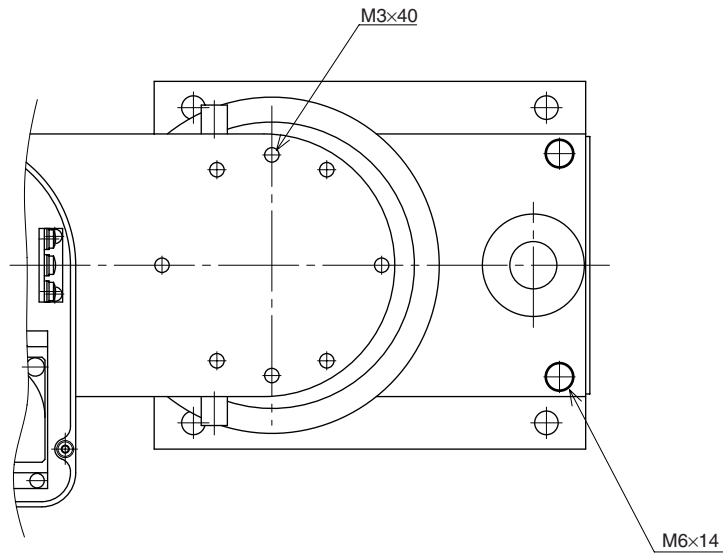
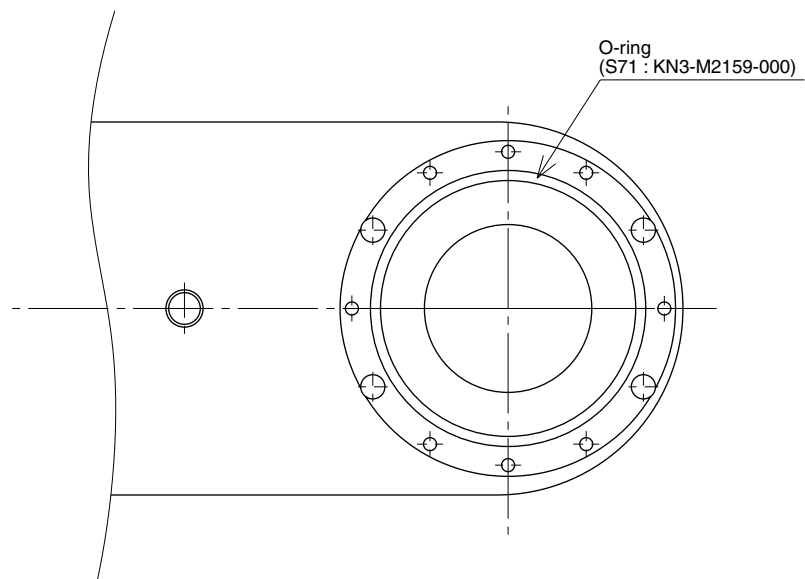
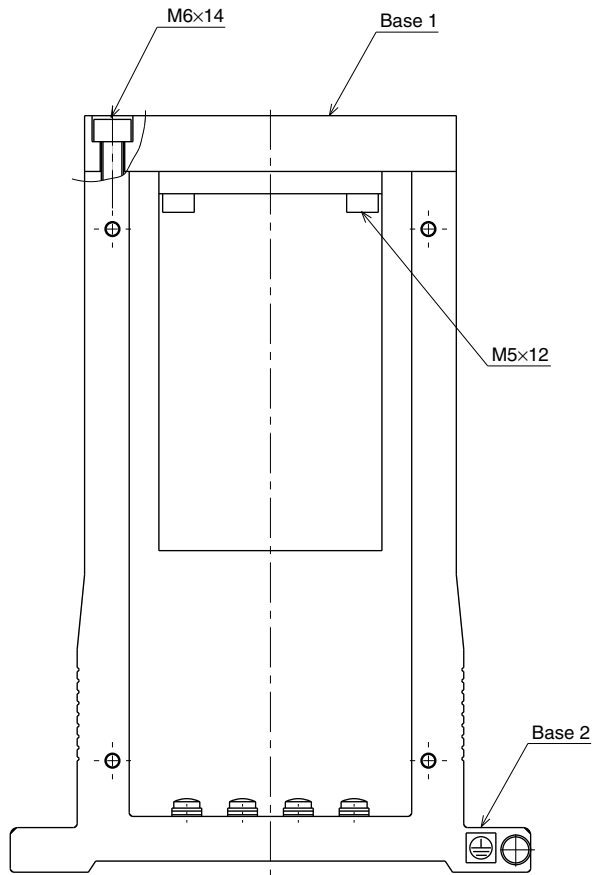

Fig. 5-1
Fig. 5-2
Fig. 5-3
- 6) Remove the X-axis arm installation bolts (M3×40L, 8 pieces). (See Fig. 5-1.)
AN O-RING IS FITTED TO THE X-AXIS ARM, SO BE CAREFUL NOT TO LET IT DROP INTO THE PERIPHERAL UNIT. (SEE FIG. 5-2.)
- 8) Remove the base assembly bolts (M6×14L, 6 pieces) to separate base 1 and base 2. (See Fig. 5-1 and Fig. 5-3.)
- 17) Fasten base 1 to base 2 with the bolts (M6×14L, 6 pieces) you removed earlier. (See Fig. 5-3.)
- 19) Fit a new O-ring into the O-ring groove on the X-axis arm and place the arm on the harmonic drive. Then, apply small amounts of "Screw Lock" to the bolts (M3×40L, 8 pieces) you removed earlier and tighten them uniformly to secure the X-axis arm to the base. (See Fig. 5-1 and Fig. 5-2.)